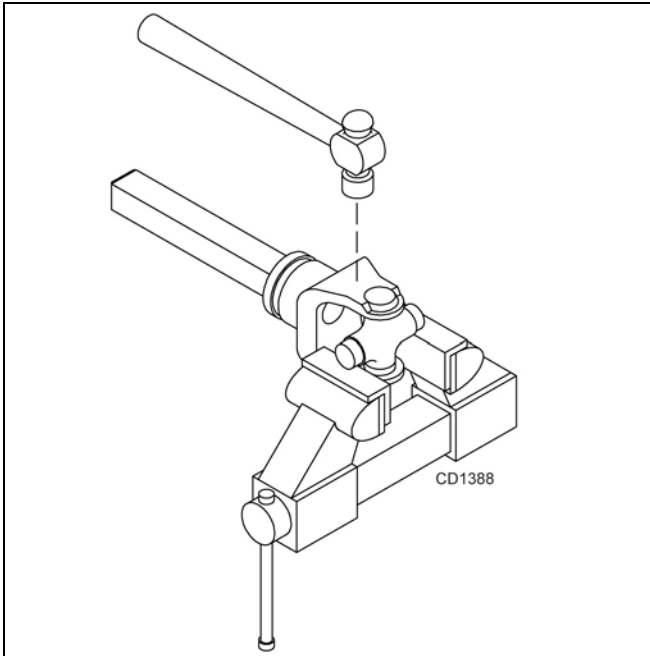

Figure 20
- Place universal cross in vise as shown in Figure 20 and tap on yoke to remove cup. Repeat Step 3 for final removal. Drive remaining cup out with a drift and hammer.